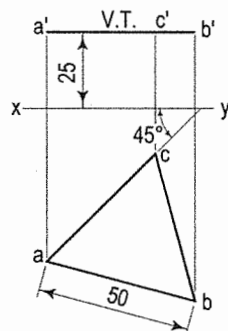

FIG. 12-8
(1) When the plane is parallel to the H.P.: The top view should be drawn first and the front view projected from it.
**Problem 12-2.** (fig. 12-8): An equilateral triangle of 50 mm side has its V.T. parallel to and 25 mm above  $xy$ . It has no H.T. Draw its projections when one of its sides is inclined at  $45^\circ$  to the V.P.